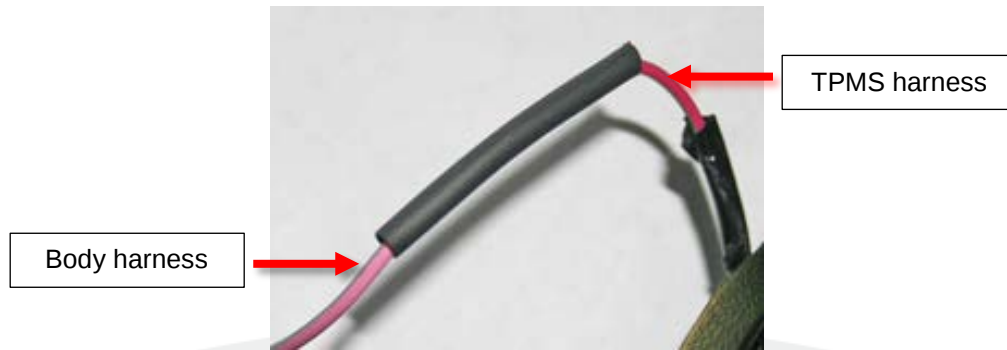

Figure 20
20. Move the heat shrink tubing over the terminal (Figure 20).